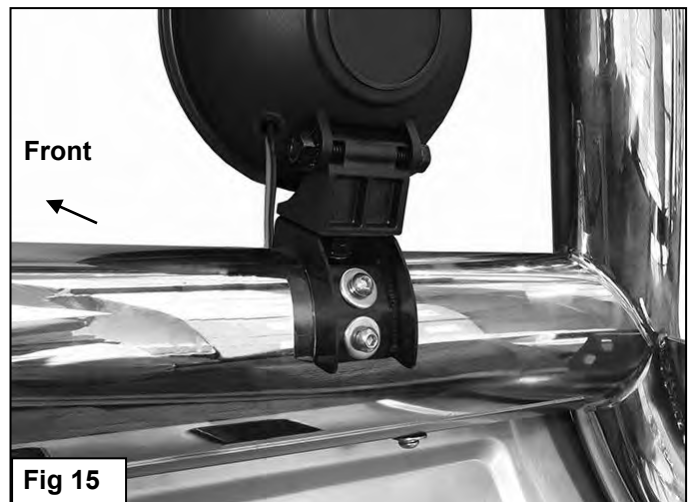

Fig 15
- b) Remove the rubber plug on the top of the crossbar. Bolt the light and Light Mount to the back of the Bull Bar with the included (4) 6mm x 20mm Button Head Bolts, (4) 6mm Lock Washers and (4) 6mm Flat Washers, **(Figure 15)**. **NOTE:** If light adjusts with the base mounting hardware, hand-tighten the light hardware; do not fully tighten hardware at this time. You may have to install, adjust, remove light with Bracket and readjust a few times to get the light properly adjusted.